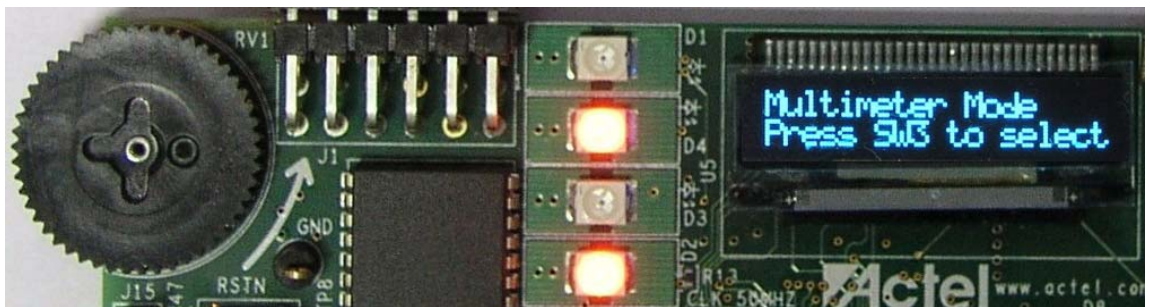

Figure 2-3 · Multimeter Mode Selection
4. Press SW2 to select Multimeter mode (Figure 2-3).